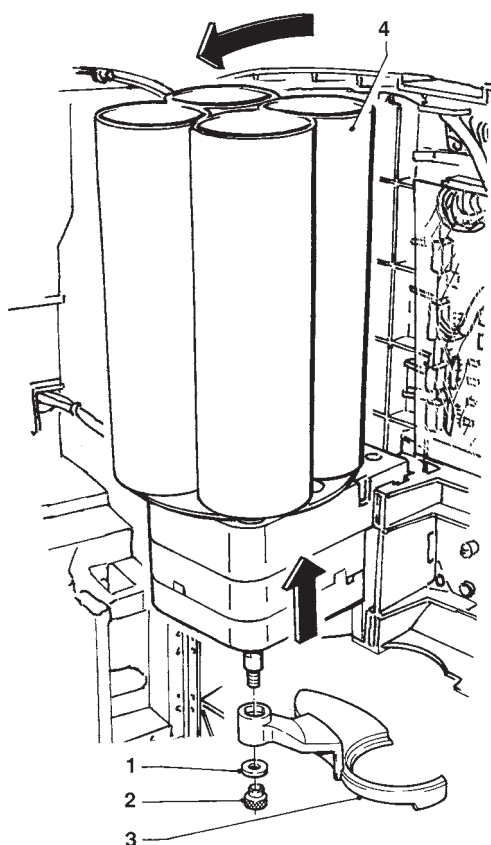

Fig. 2
- slightly lift the cup dispenser and tilt it (see Fig. 2);
The cup shift arm must be cleaned periodically by removing it from the machine. In order to remove it, completely undo the fastening knurled nut (see Fig. 2).